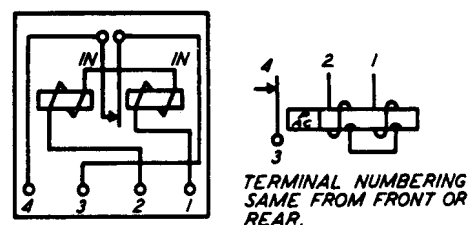

Fig. 33 – Winding and Spring Terminal Arrangement as Viewed From the Front (contact side) — 150-Type Relay
2.44 The contact and winding terminals are numbered consecutively from right to left facing the front end of the relay as shown in Fig. 33.